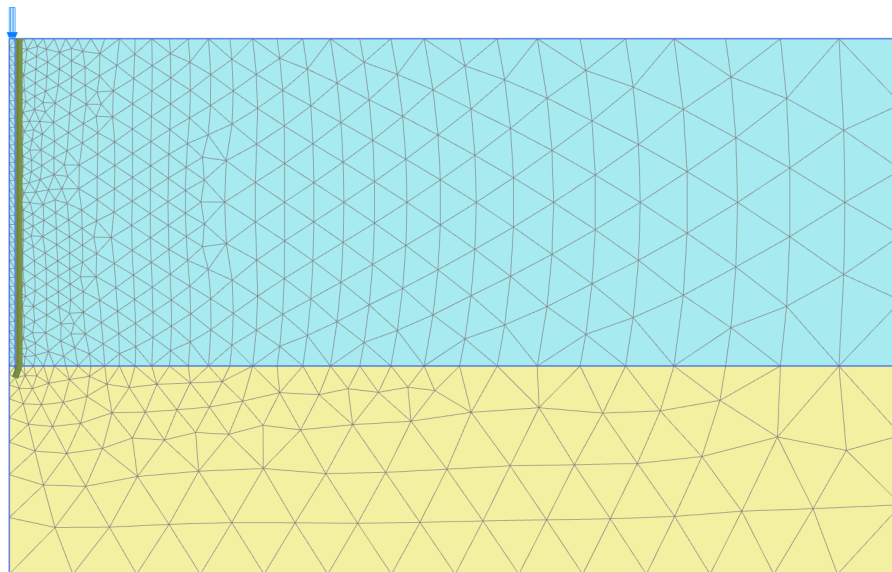

Figure 16-5: The generated mesh
- 3 Click the **View mesh** button  to view the mesh shown in Figure 16-5 \(p. 249\).